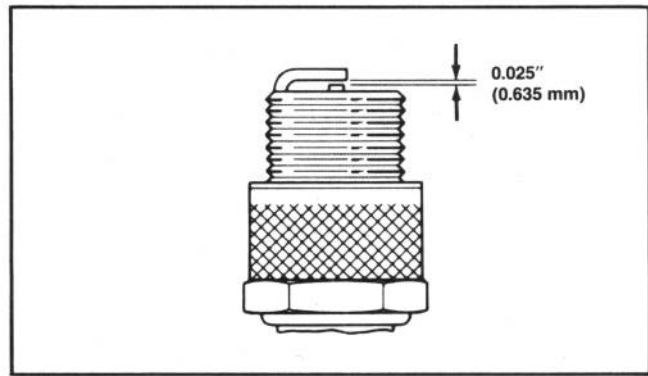

Figure 21
5. Set air gap between center and side electrodes at 0.025 of an inch (0.635 mm) (Fig. 21). Install correctly gapped spark plug w/gasket seal, and tighten plug to 10-15 ft-lb (14-20 N·m). If torque wrench is not used, tighten plug firmly.